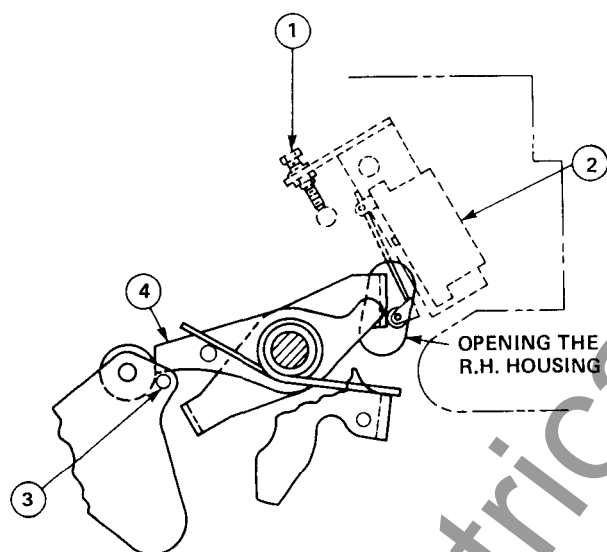

Fig. 5 — Latch Check Switch Adjustment
5.9 OPERATING MECHANISM (See Figure 5)